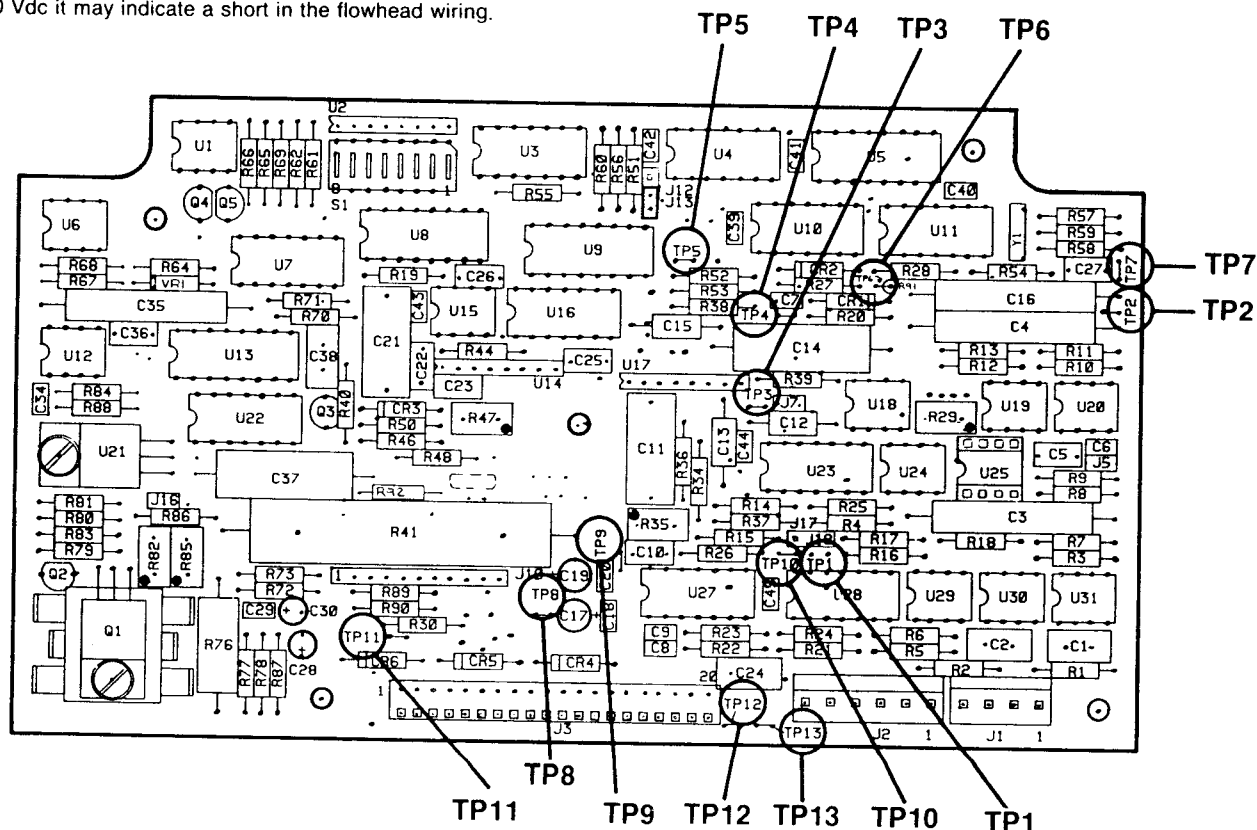

Figure 5-1 Troubleshooting Test Points — Signal Conditioning Board
3. Reconnect power to the flowmeter. Read the Analog Current between TP13 (+) and TP12 (-), located on the Signal Conditioning Board (the center board of the three board module), near the electrode input connector, refer to Figure 5-1.